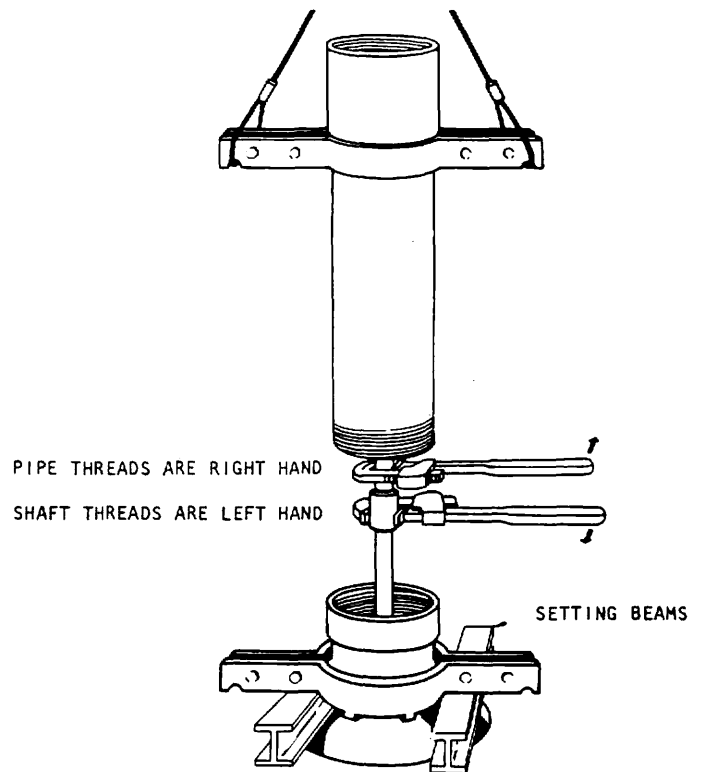

FIG. 10 - TIGHTENING SHAFT CONNECTION ON OPEN LINESHAFT COLUMN
4. Place the two setting beams on the baseplate. See Fig. 10. Use plywood under the beams to protect the machined surface of the baseplate.
2. Place the setting beams directly on the foundation in an approximately level position. See Fig. 10.
COUPLING. If the shaft will not screw into the coupling by hand, the threads are either damaged or dirty, or the shafts are not properly aligned. This problem must be corrected before proceeding. Place one pipe wrench on the coupling and one on the top piece shaft and tighten. Both wrenches should be handled by one man so that the push on one wrench will be balanced by the pull on the other wrench. See Fig. 10. The shafts should show equal amounts of threads above and below the coupling, indicating that the shaft butt is centered in the coupling. Remove any wrench marks from the shaft and the coupling with a flat file and emery cloth. Cover the opening with a rag to prevent the metal filings from falling on bearings below.